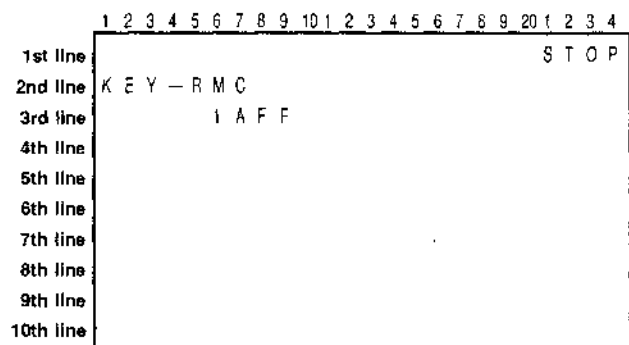

Fig. 7-7. Key and remote control data
The one byte (2 digits in hexadecimal notation) on the left of the 3rd line in figure 7-7 is the SIRCS code of the key input data of the main unit, and that on the right is the SIRCS code of the input data by the remote control unit. When no key is pressed or there is no input, "FF" appears. When two keys are pressed almost at the same time, the SIRCS code of the input data by the first pressed key will appear.
An example in figure 7-7 shows that the playback key (1A in hexadecimal notation) on the main unit is pressed but there is no input (FF in hexadecimal notation) from the remote control unit.